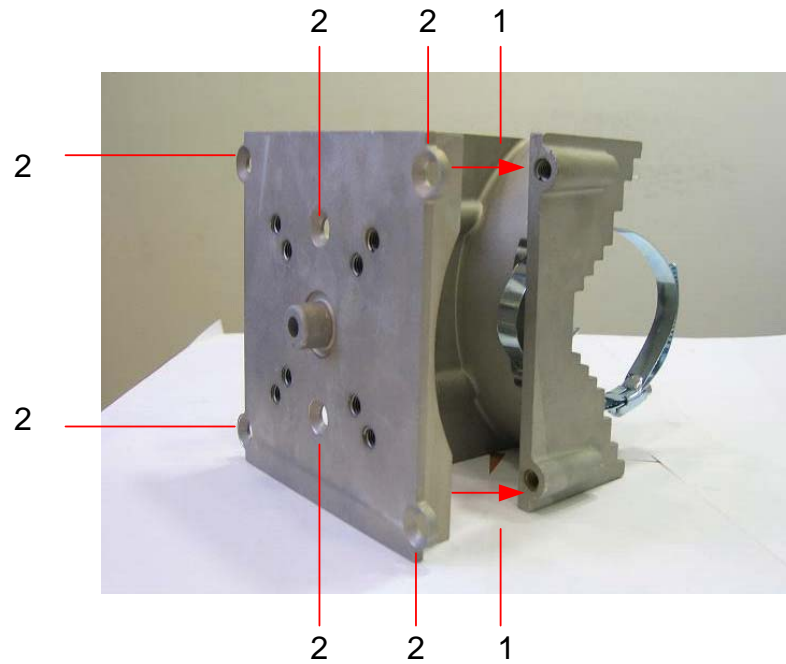

Figure 3.12. **Attaching the Back Plate to the Pole Bracket**
- Attach the back plate to the pole bracket as labeled #1 in Figure 3.12
5. Insert the six bolts into the holes in the back plate labeled #2 in Figure 3.12 and tighten.